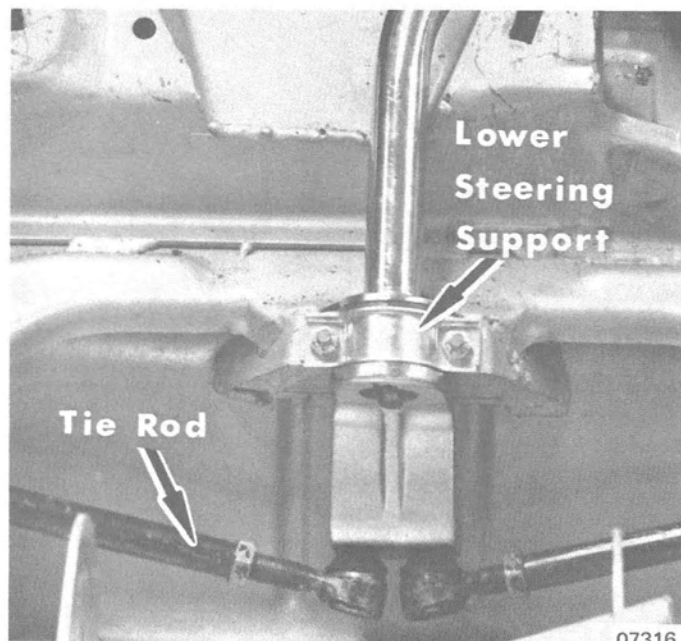

Figure 1. Steering Shaft Support
4. Remove tie rod ends from steering shaft pitman arm. DO NOT alter tie rod adjustment unless tie rods and components are to be serviced. (Figure 1)
3. Secure steering shaft to steering supports with bushings, support brackets and nuts. (Figures 1 and 2)